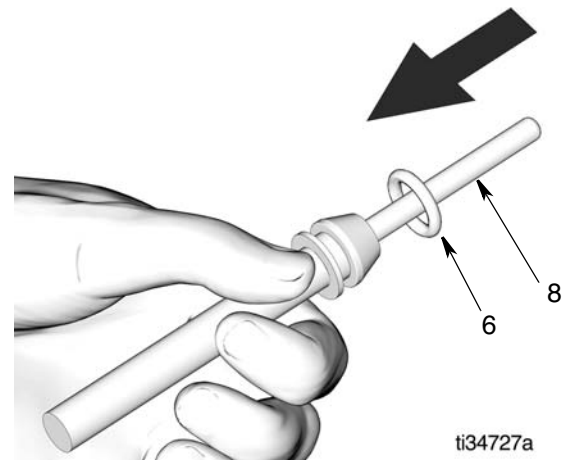

FIG. 12
1. Apply a thin layer of oil around packings (16 and 13) and inlet valve (14).
2. Install packing (16) inside injector body (9). Be sure packing is pushed all the way inside injector body.
3. Install inlet valve (14) and packing (13).
4. Slide o-ring (6) onto indicator pin (8) as shown in FIG. 12.